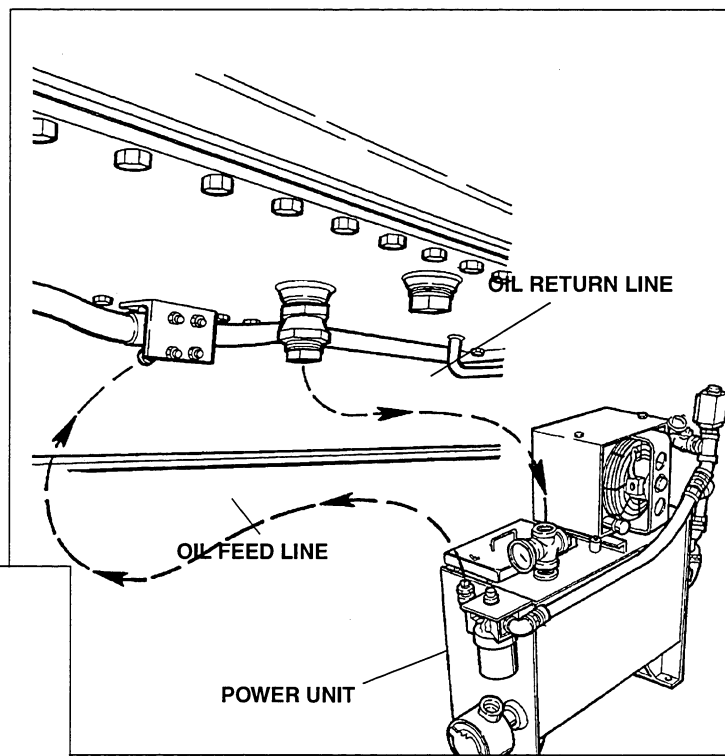

Figure 3-7. Hydraulic Connections - Circulating Oil System
Refer to Figure 3-7 and proceed as follows:
1. Connect oil feed and return lines as shown in Figure 3-7.